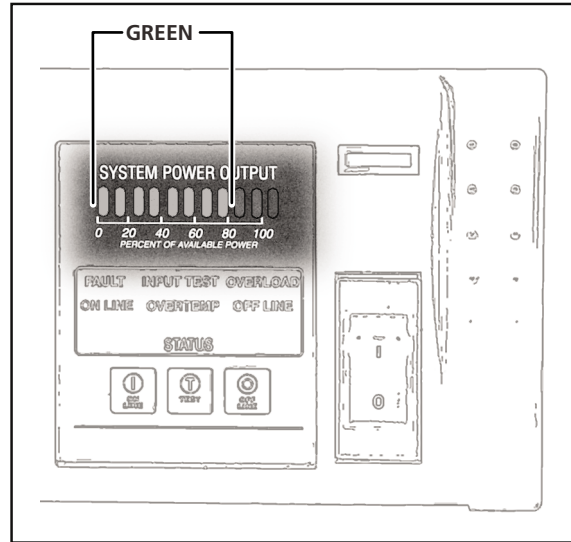

Figure 4-5 Normal Operation
**Green** Eight green vertical bars indicating 10% to 80% power output are displayed during normal operation. Figure 4-5 shows the display indicating 80% output power.